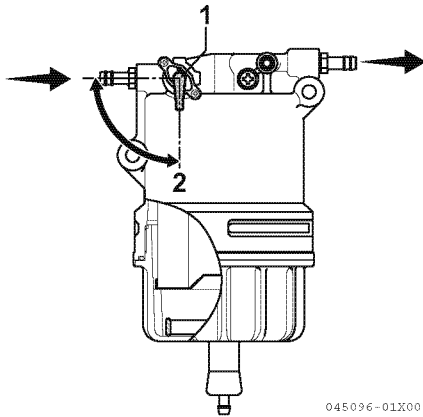

Figure 1
2. Make sure the water separator fuel valve (1, **Figure 1**) is in the ON position (2, **Figure 1**).